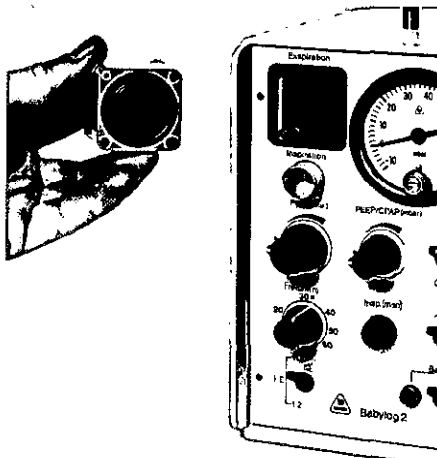

Fig. 7 Diaphragm in valve cover
- Insert diaphragm into valve cover (Dräger symbol must be legible, Fig. 7).